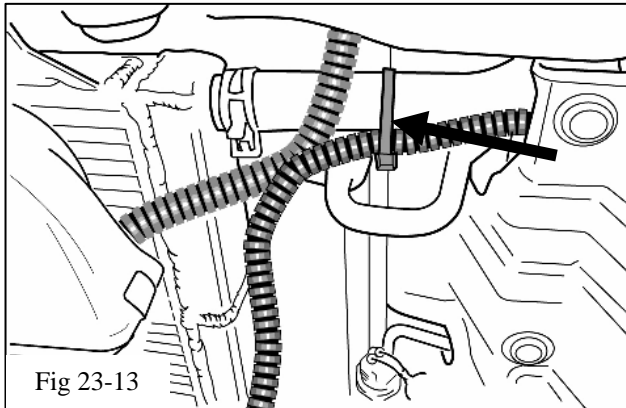

Fig 23-13
- (l) Continue with the wire harness through the radiator bulkhead and down along the LTR (Fig 23-13). Secure with short lock ties (A5) as shown.